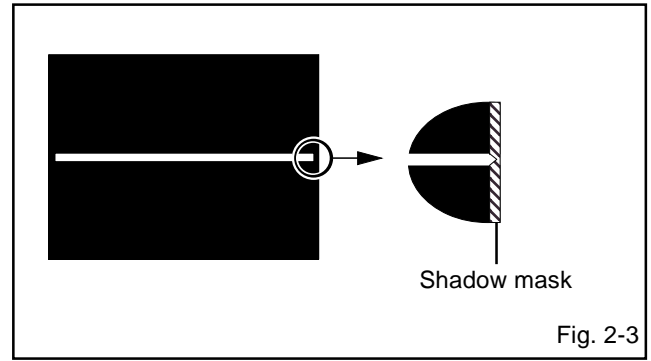

Fig. 2-3
4. Press the VOL. UP/DOWN button on the remote control until the horizontal line becomes fit to the notch of the shadow mask. (Refer to **Fig. 2-3**)